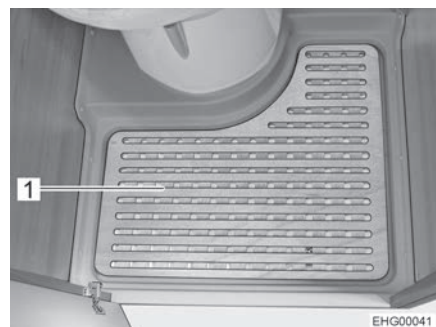

Fig. 116 Removable floor plate
- Take out the removable floor plate (Fig. 116,1) for showering.